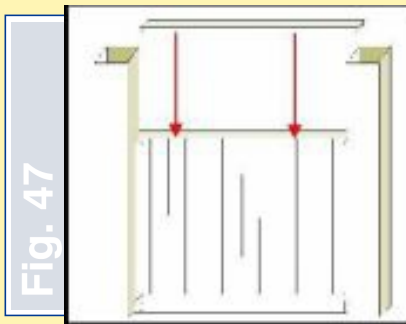

Fig. 47
7. Assembly of the upper fixing cross-piece (C) and decorative caps
- then in the prepared connectors install upper cross-piece (C) together with the channel section B1 - Fig. 47 (to make the fixing easier one of the posts may be gently turn aside)